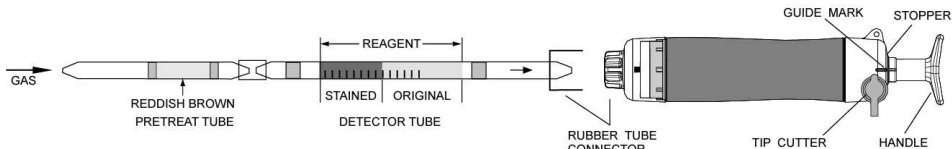

Fig.1
- ① Break both ends of detector tube and pretreat tube, and connect each end of the detector tube and pretreat tube with rubber tube connector as shown in Fig.1.
- ② Insert the detector tube into aspirating pump securely as shown in Fig.1 (Arrow mark shall point to the pump).
- ③ Align the guide marks on the shaft and stopper of the aspirating pump.
- ④ Pull the pump handle at full stroke until it locks and wait for 1.5 minutes or until the completion of sampling is confirmed with the flow indicator of the pump (See descriptions about the flow indicator in the instructions of the pump).
- ⑤ On completion of sampling, read the scale at the maximum point of the stained layer.